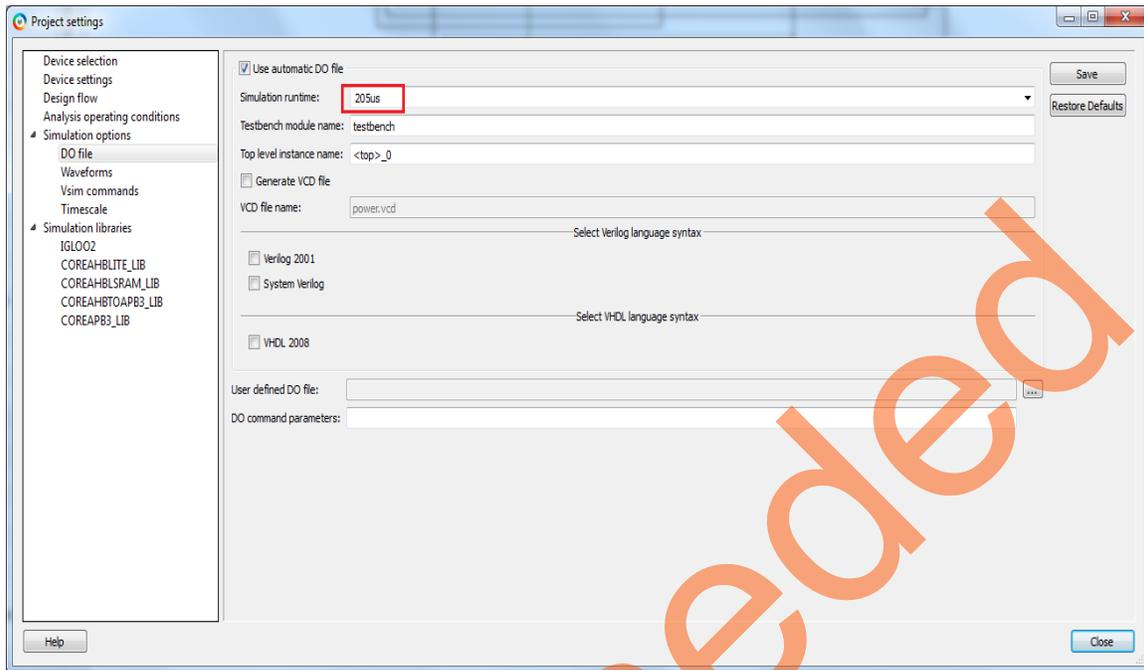

Figure 40 • Project Setting – Do File Simulation Runtime Setting
4. Select **Do File** under **Simulation Options** in the **Project Settings** window. Change the **Simulation runtime** to **205µs**, as shown in Figure 40.